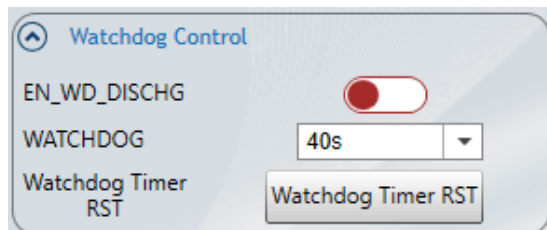

Figure 21: I²C Watchdog Timer Setting
17. Figure 21 shows the I²C watchdog timer setting.